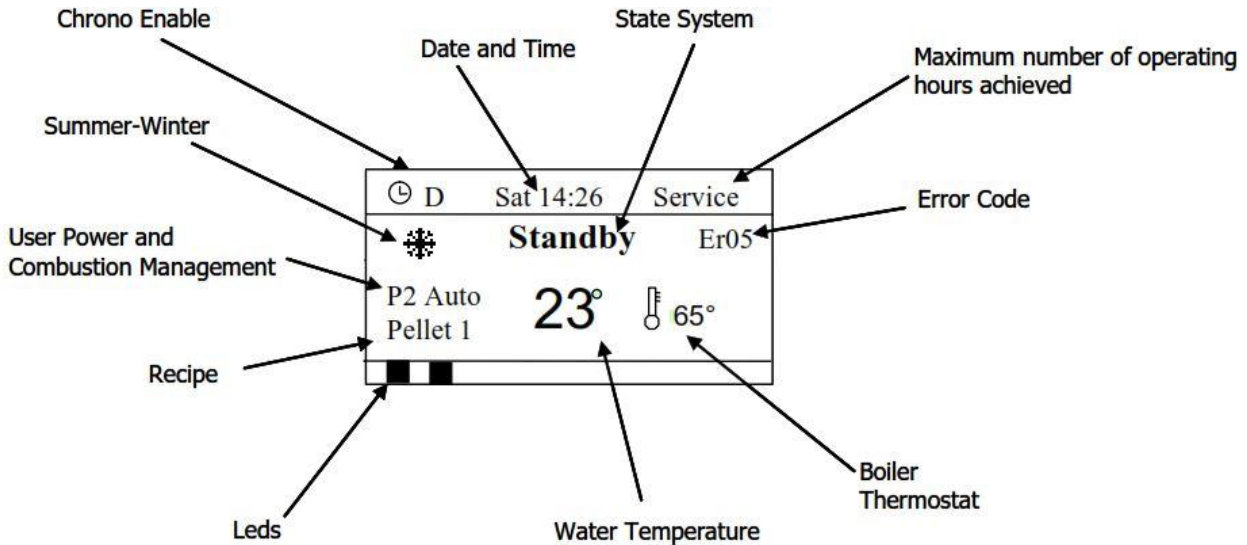

Figure 14. View of LCD screen on display
Go back to the basic view on the display (**Figure 14**), by pressing the key **P1** .
- **STEP 4:** Initiate feeding system as the first grains of the pellet might fall into the combustion cup / space. *(This procedure can be applied only when the Automation system is in OFF mode (Figure 14 : state of regime))*